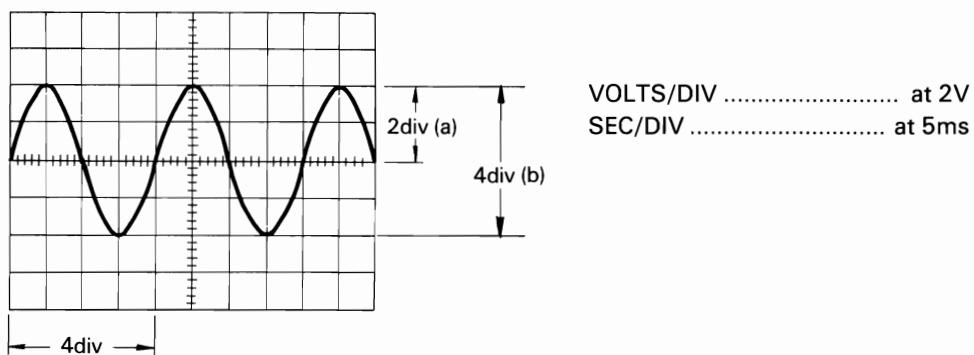

Fig. 2 Voltage and frequency measurement
Initially, set the Variable knobs (inner) of VOLTS/DIV and SEC/DIV switches (3) and (20) to the CAL positions. An example is shown in Fig. 2.
From Fig. 2:
$$\text{For the waveform in Fig. 2, frequency} = \frac{1}{5\text{ms} \times 4 \text{ (div)}} = \frac{1}{20\text{ms}}$$